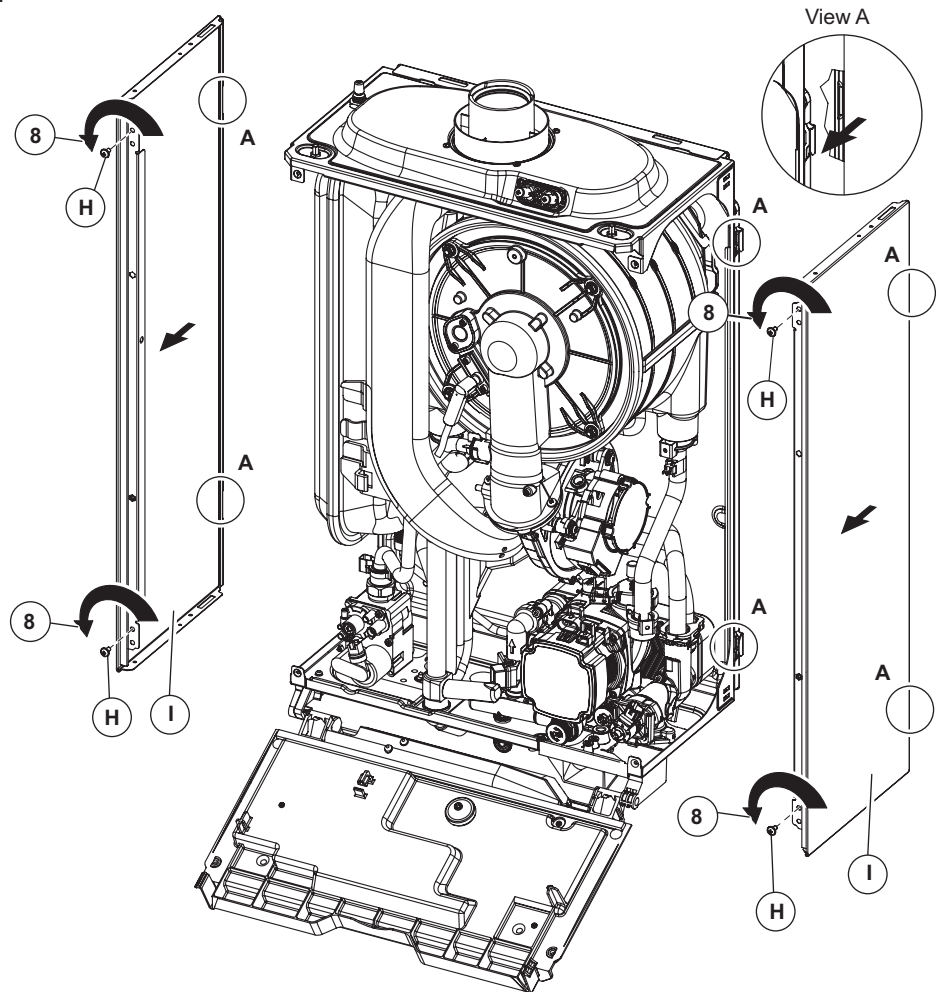

Fig. 7.4
Side panels - Fig. 7.4
- 8. Remove the screws 'H' securing the side panel 'I'. Lift the side panel and pull it forwards unhooking it from the rear panel (view 'A' in Fig. 7.4) Lower the panel out and away from the top cover.